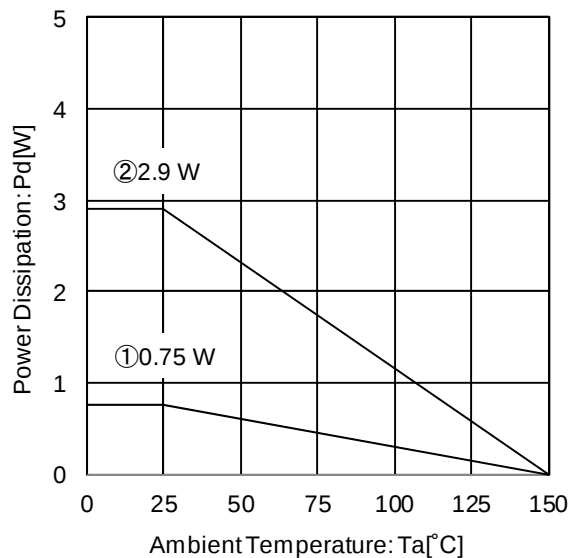
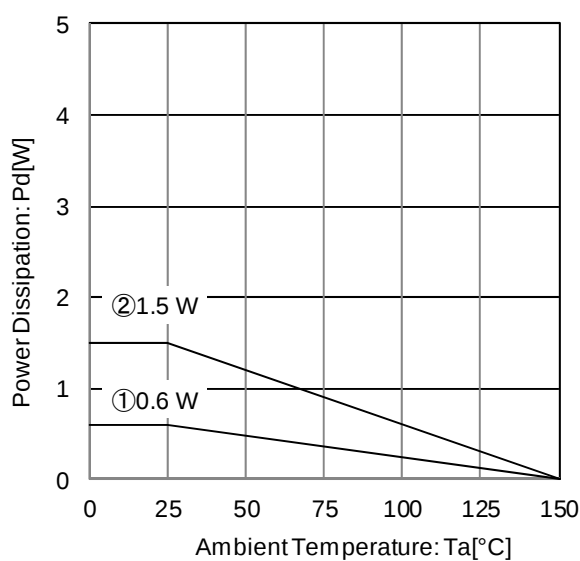

Figure 25. Package Data
Figure 27. Package Data
Refer to the heat mitigation characteristics illustrated in Figure 25 to Figure 27 when using the IC in an environment of $T_a \geq 25^\circ\text{C}$. The characteristics of the IC are greatly influenced by the operating temperature, and it is necessary to operate under the maximum junction temperature T_{max} .
At $T_a = 125^\circ\text{C}$ with Figure 25 ② condition, the calculation shows that ca 56.4mA of output current is possible at 10.2V potential difference across input and output.
At $T_a = 125^\circ\text{C}$ with Figure 25 ② condition, the calculation shows that ca 67.7mA of output current is possible at 8.5V potential difference across input and output.
At Ta=125°C with Figure 27 ② condition, the calculation shows that ca 29.4mA of output current is possible at 10.2V potential difference across input and output.
At Ta=125°C with Figure 27 ② condition, the calculation shows that ca 35.2mA of output current is possible at 8.5V potential difference across input and output.